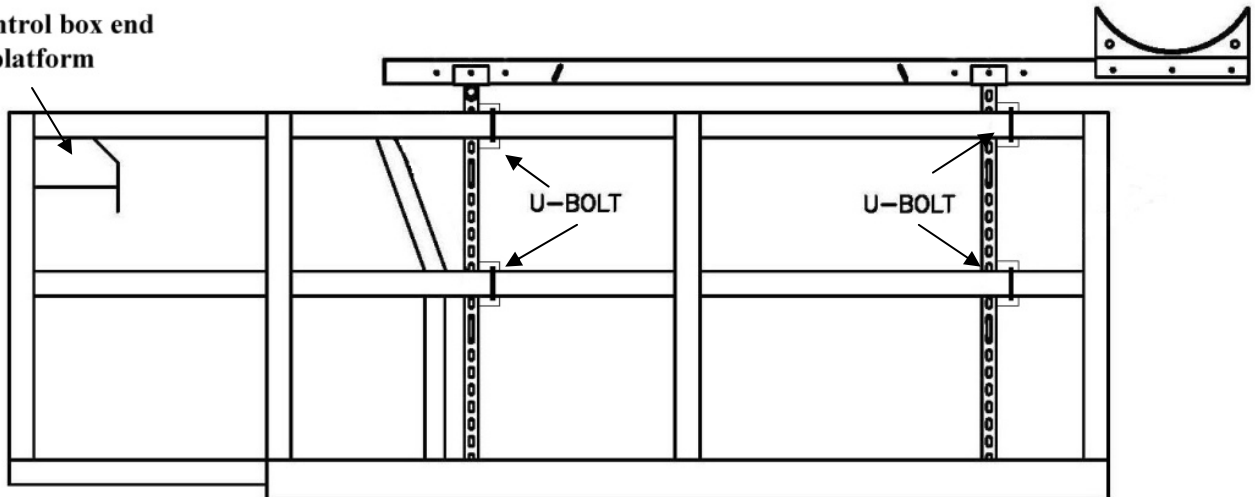

Figure 1.4 Roof Purlin & Roller Door Attachment installation
4. Lift Attachment should be secured to the side of scissor lift with given U bolts to be used in the main deck area only as per figure 1.4 & 1.5